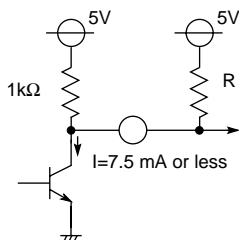

Fig. 1
4. The H and V output pins (pins ⑱ and ⑳) are as shown in Figure 1.
1. Resistance can be inserted into a portion between power supplies to improve the rising speed. However, set the R value to limit the current to 7.5 mA or less. In Figure 1, R is 2 kΩ or more.